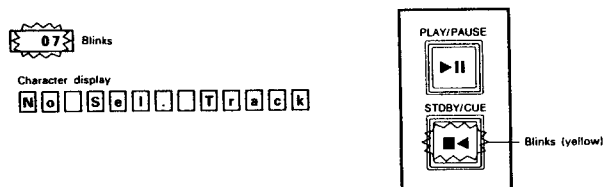

Figure 24
- If the selected track number does not exist on the disc, the display reads as shown in Figure 24. Select a new track. Example: When track 7 is selected for a disc containing 4 tracks